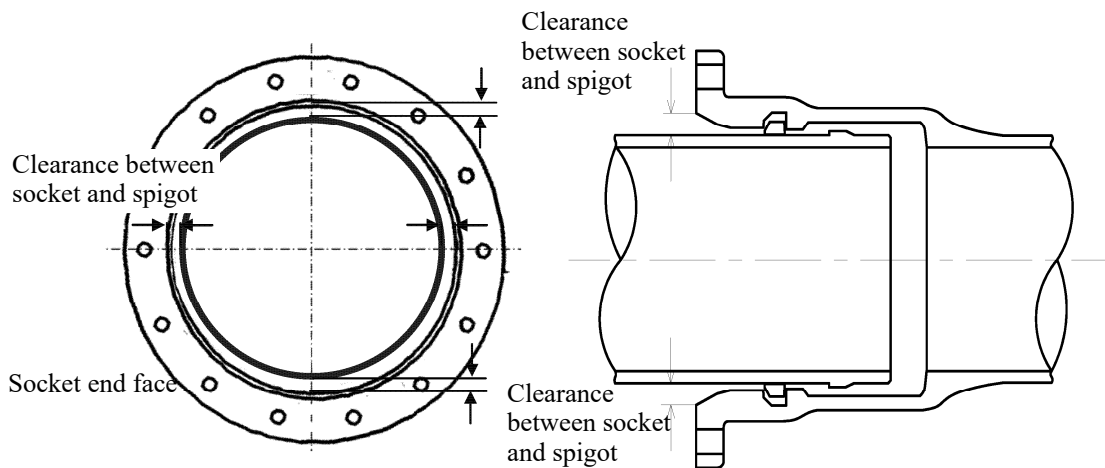
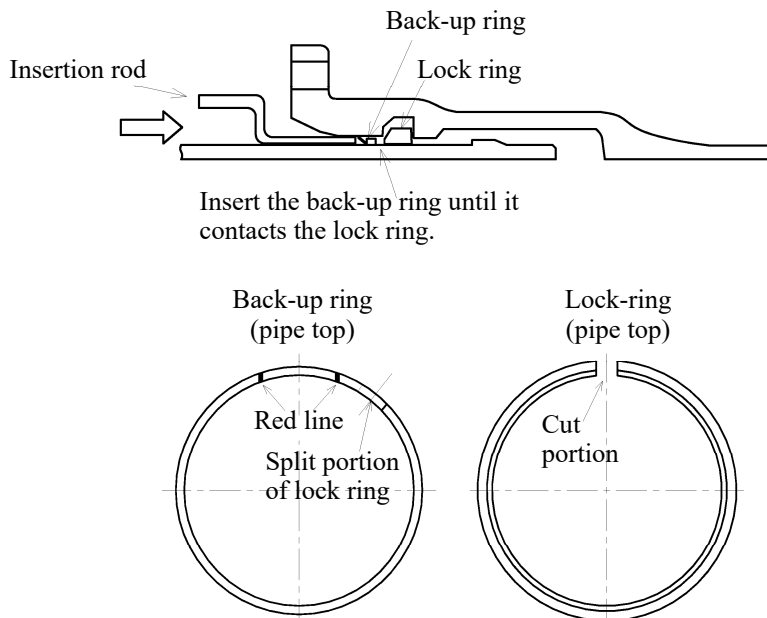

Figure 12 Pipe alignment
Figure 13 Back-up ring insertion
Carefully align the pipe so that the dimension between the inside of the socket end and outside of the spigot (clearance between the socket and spigot) will be uniform, as illustrated in Figure 12. Keep the pipe aligned until joining work is over. After having aligned the pipe, use an insertion rod to insert the back-up ring into the clearance between the socket and spigot until the back-up ring will contact the lock ring over the entire periphery, as illustrated in Figure 13.
- ① Locate the lock ring cut portion between two red lines indicated on the back-up ring so that the cut portion of the back-up ring will not overlap the cut portion of the lock ring. (See Figure 13.)